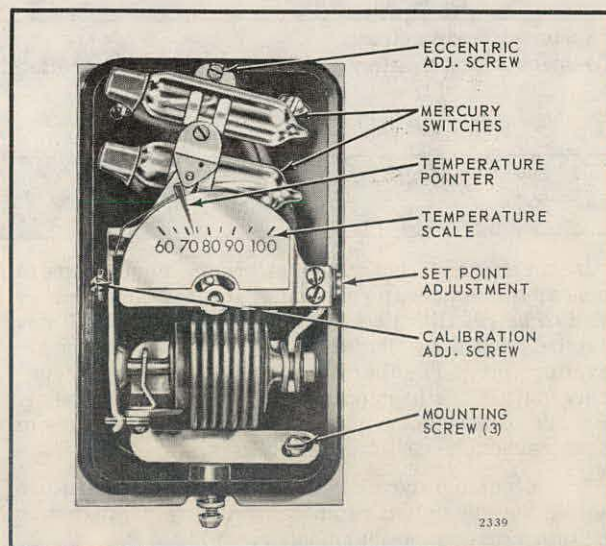

FIG. 11 INTERNAL VIEW OF T42H.
The differential settings for the T42H, J, K, and L are adjustable from 1 to 5 degrees F. If the factory setting of 1 F is not satisfactory, the differential may be increased by means of the eccentric adjustment screw (see Fig. 11).
3. Turn the calibration adjustment screw (see Fig. 11) one quarter turn for each degree of control error—clockwise  if the thermostat is maintaining too low a temperature; counterclockwise  if too high a temperature is maintained.